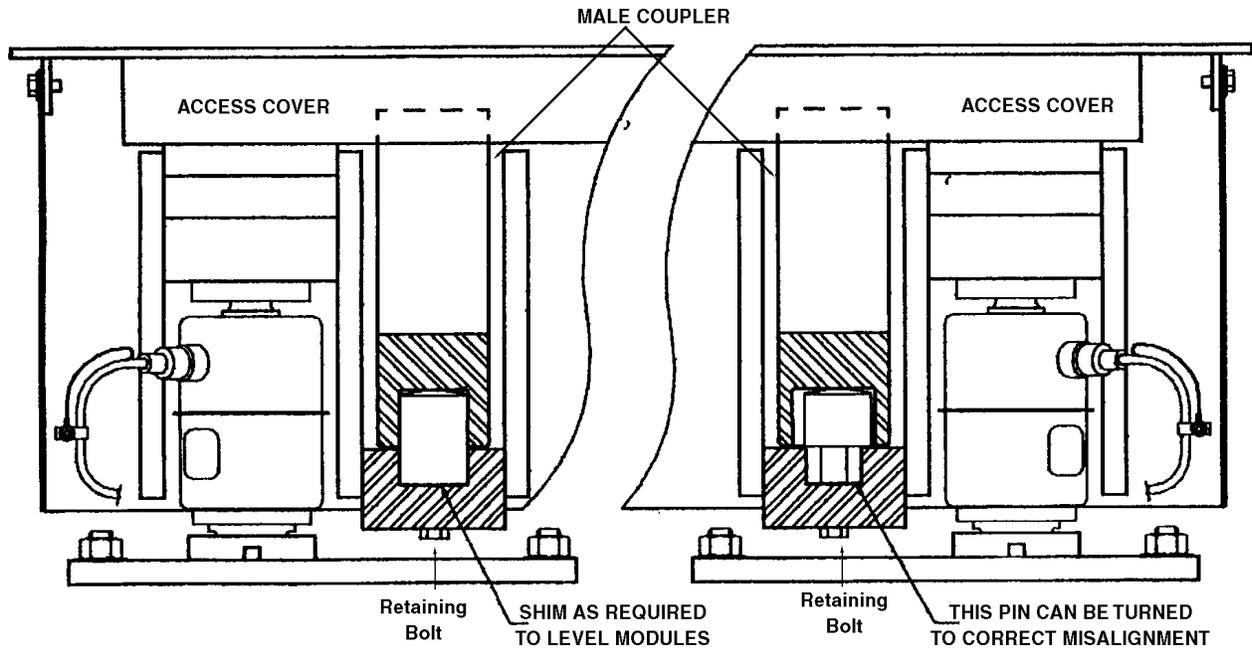

Figure 5-2: Module Alignment
3. Remove retaining bolt from octagonal coupler pin of adjoining module and lift from socket. Rotate pin one position counterclockwise for left drift or one position clockwise for right drift, then drop back into socket. Replace retaining bolt. (Refer to Figure 5-2.)